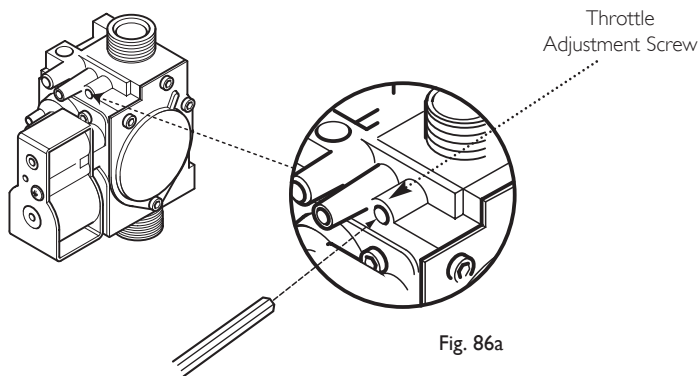

Fig. 86a
**NOTE:** To assist the boiler to light prior to final setting, use a suitable hexagon key to wind out the Throttle adjustment screw until it is flush with the valve body, then turn the screw 4 full turns clockwise (Fig. 86a). If the boiler will not light, or the correct CO2 cannot be achieved contact the 'heateam' technical helpline.